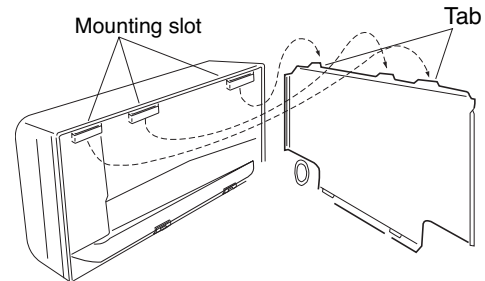

Fig. 3-47
- Hang the 3 mounting slots of the unit on the upper tabs of the rear panel. (Fig. 3-47)